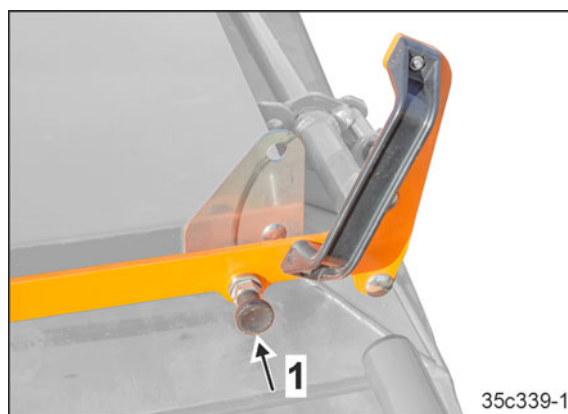

Fig. 228
4. Make sure that the spring-loaded pin engages (Fig. 228/1).